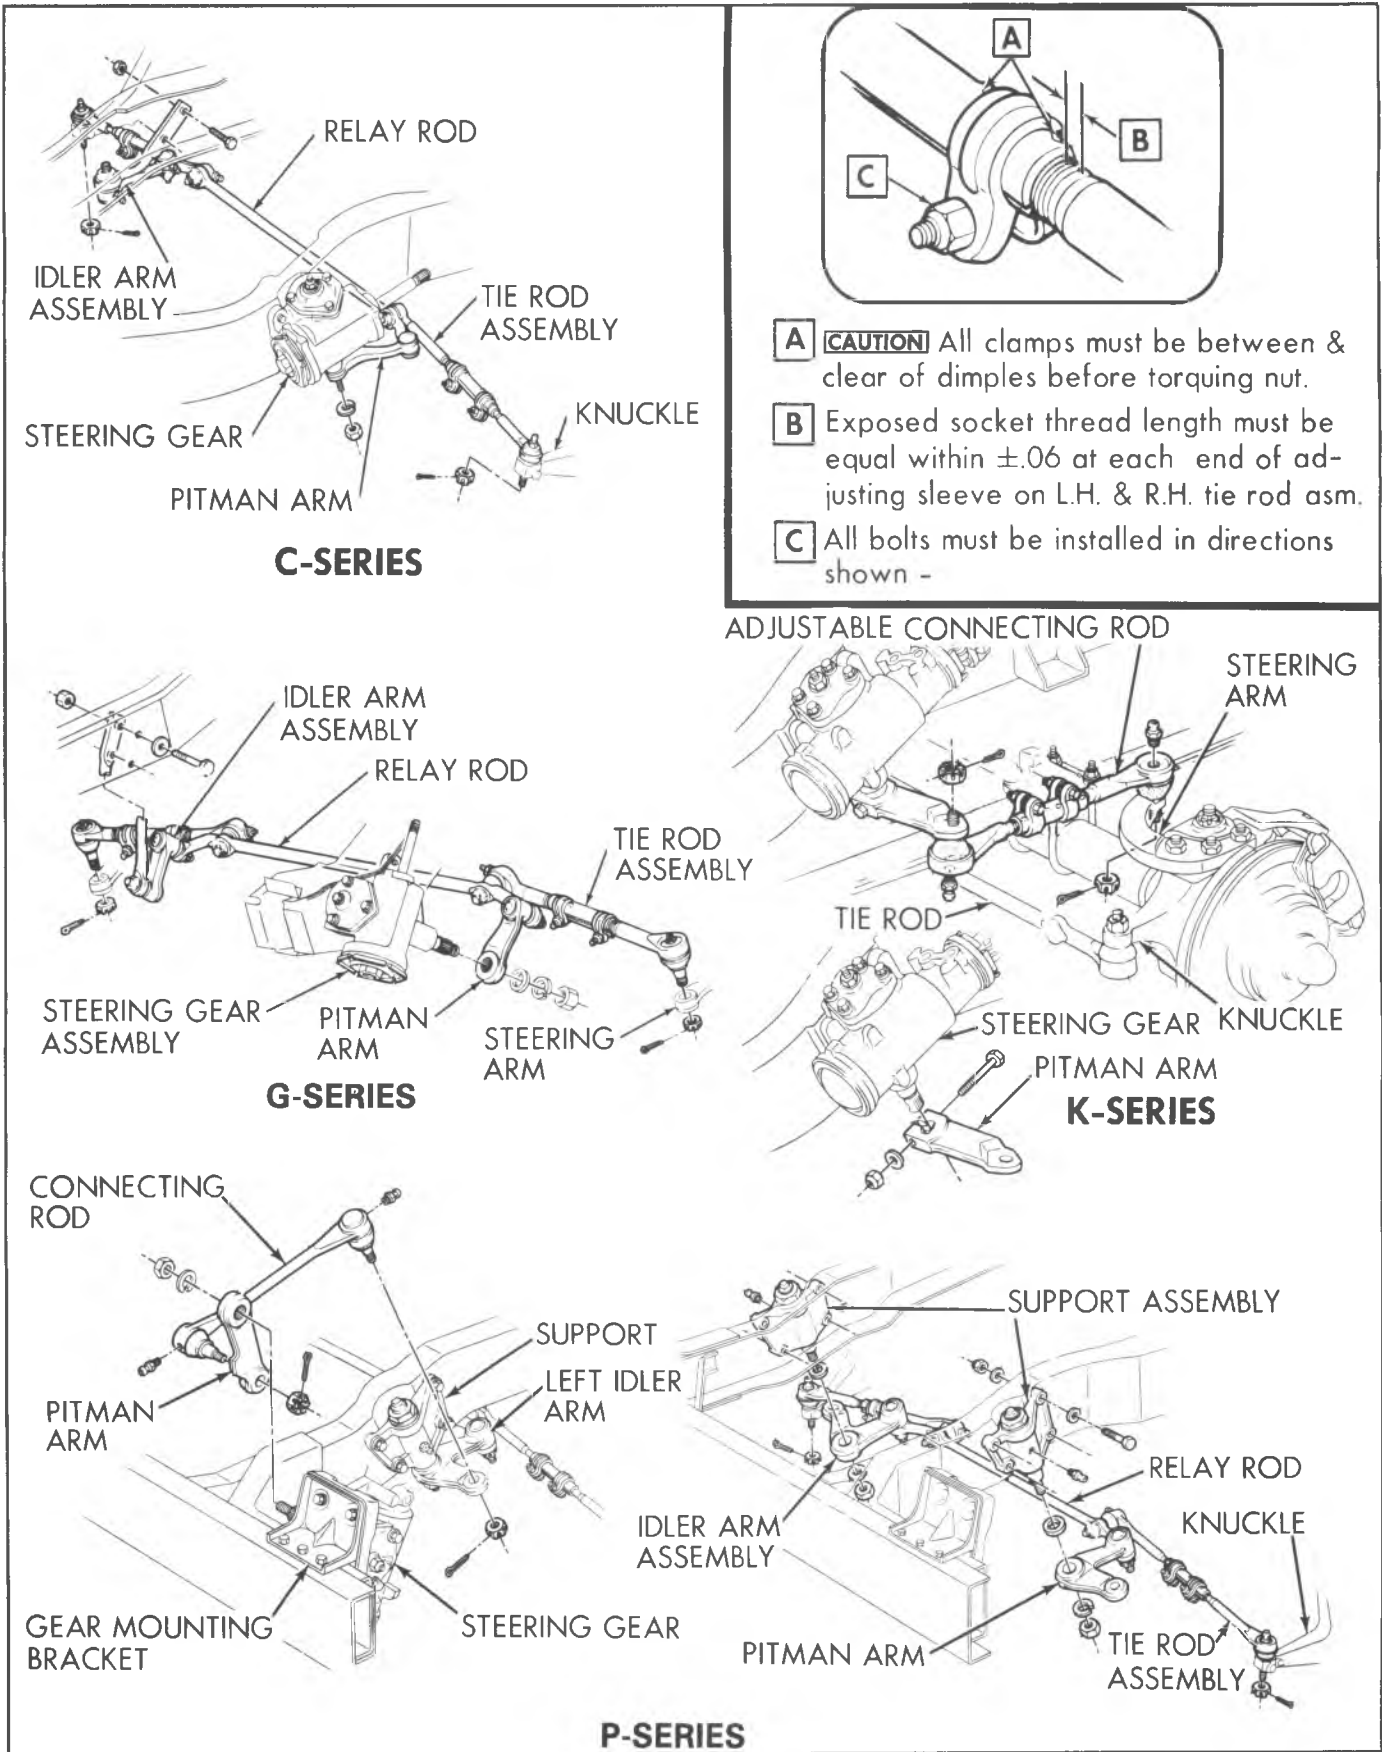

Fig. 3B1-5--Steering Linkage
c. Rotate outer tie rod end counterclockwise (up) to maximum position. Attach bevel protractor as shown in Figure 3B1-9. Center protractor bubble indicator and record reading.